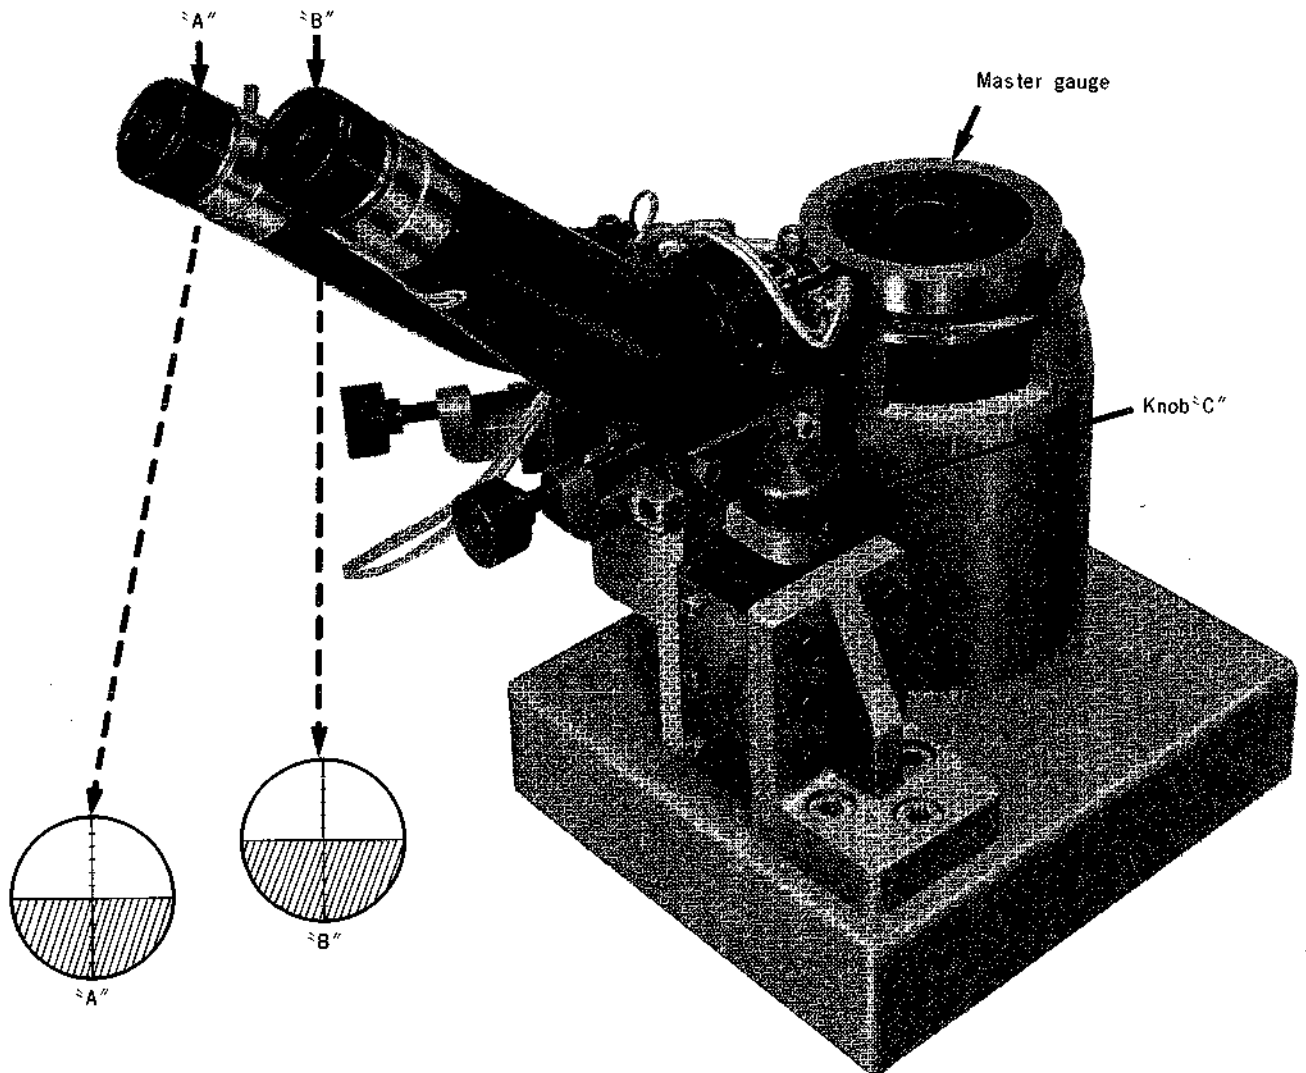

Fig. 11 Microscopic Views of Master Gauge
- (a) Use a Master Gauge as shown in Fig. 11 and adjust Knob "C" so that the edge of the Master Gauge can be seen above the center lines of both microscopes A and B.